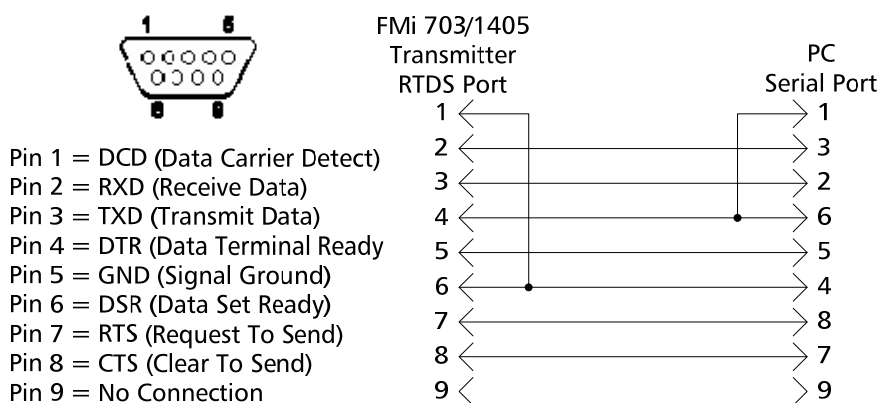

Figure 31 – Null Modem Cable Pinout
Step 1 – Establish communication from the PC to the transmitter using Hyperterminal. Connect a Null Modem Cable from the serial port of a PC to the RTDS Port on the front of the FMi 703/1405 Transmitter as shown below. See **Figure 31** for cable construction.